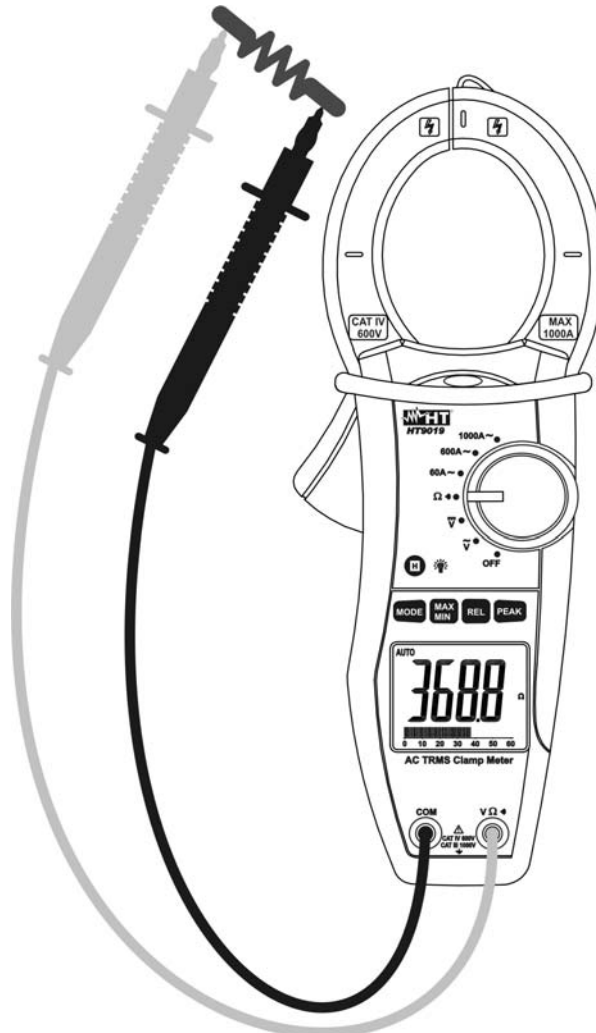

Fig. 5: Taking Resistance measurement and Continuity test
2. Insert the red test lead plug into $V\Omega$ jack and the black test lead plug into **COM** jack (Fig. 5)